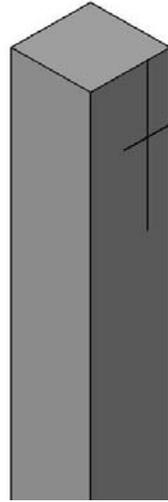

Fig. 13: Make layout lines marking the center of the mortise.
**Step 3.** Make layout lines on your stock that mark the center of the mortise. Fig 13 shows the completed layout lines on a leg blank before the mortise has been routed.